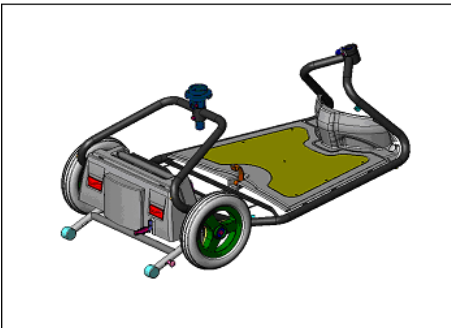

figure 4
- d. Secure the frame to the power unit by the anti tip securing arrangement. Do that by releasing the knob at the right of anti tip and pulling it upward until the knob is re secured. (See **figure 4**)